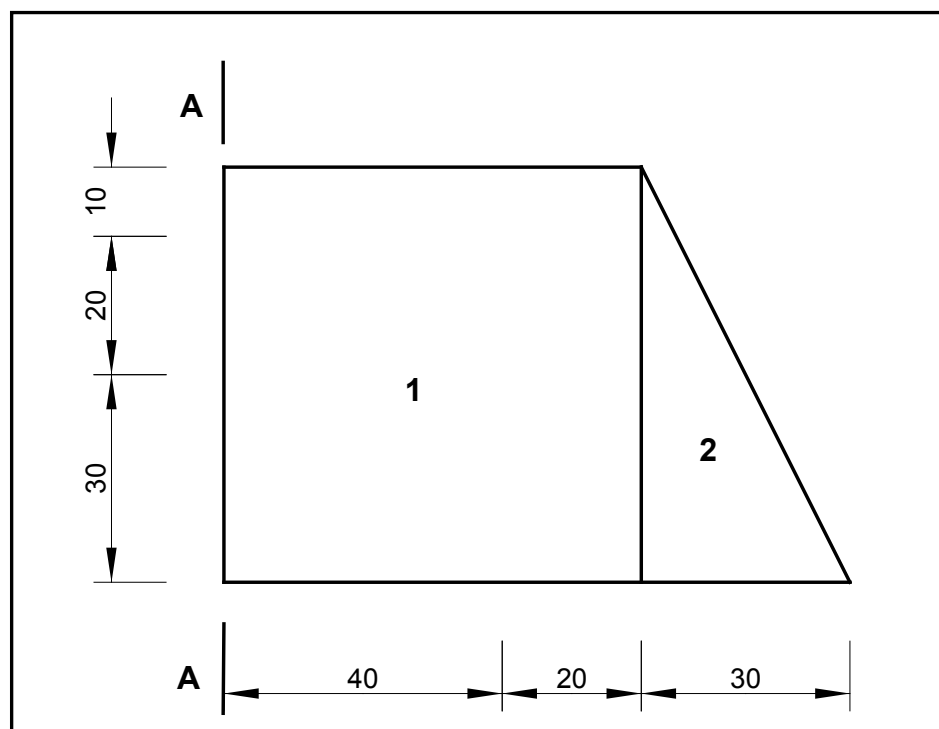

FIGURE 5.1
5.1 FIGURE 5.1 shows a shaped lamina. All dimensions are in millimetres.